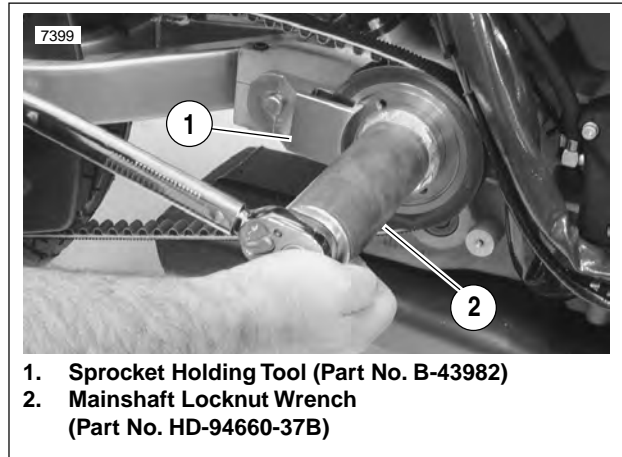

Figure 6-65. Transmission Sprocket Tightening
- See Figure 6-65. Use MAINSHAFT LOCKNUT WRENCH (Part No. HD-94660-37B) and a torque wrench to tighten sprocket nut to 50 ft-lbs (67.8 Nm) INITIAL torque, ONLY.